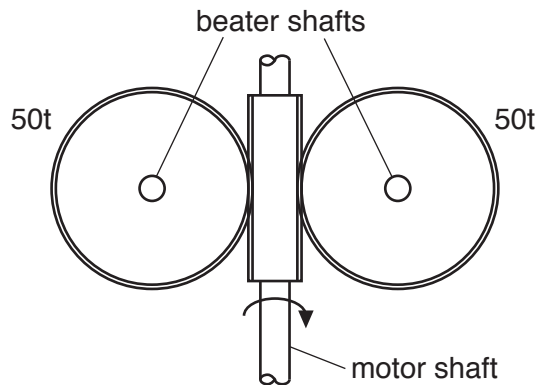

Fig. 5
- (iii) Fig. 5 shows a drawing of the gear system used in the food mixer. Use arrows to indicate the direction of rotation of the beater shafts.